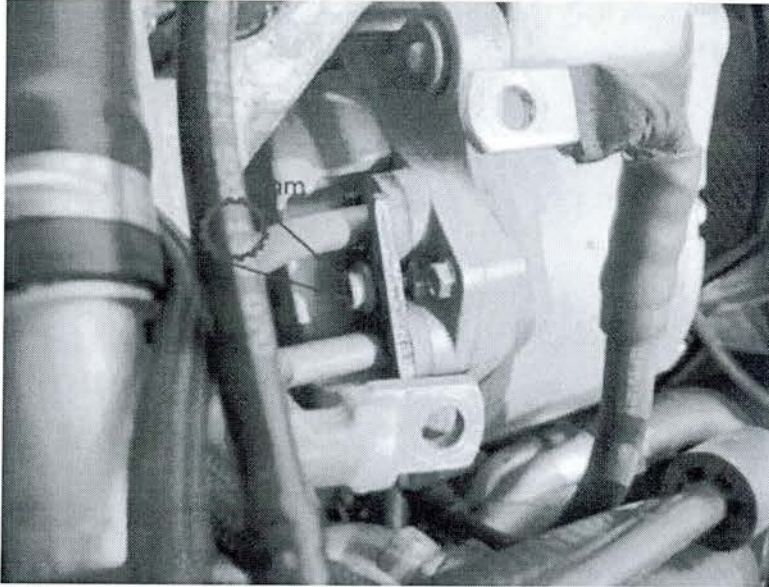

Figure 13
15. Disconnect the alternator coolant feed and return pipes (securing bolt is 8mm Multi point socket head screw) (see Figure 13)